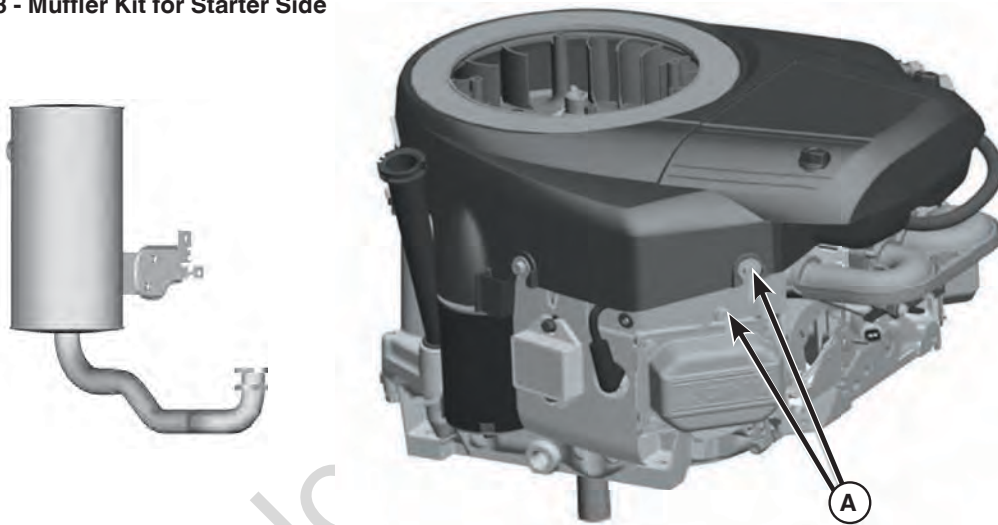
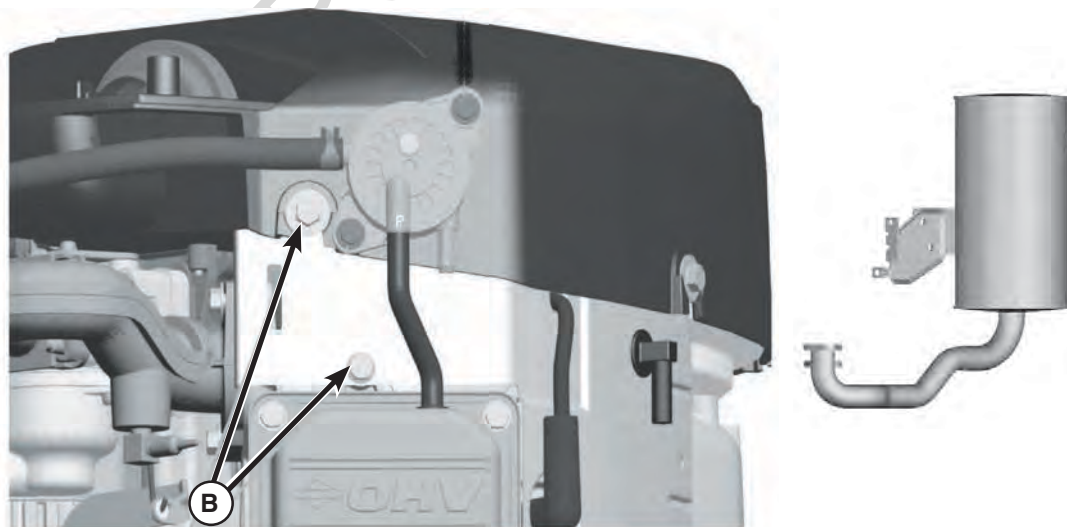

Figure 1
Figure 2
1. Use the existing hardware to install the mounting bracket to the engine with the bracket mounting hole under the blower housing (**A**, Figure 1 and **B**, Figure 2). **DO NOT** tighten at this time.